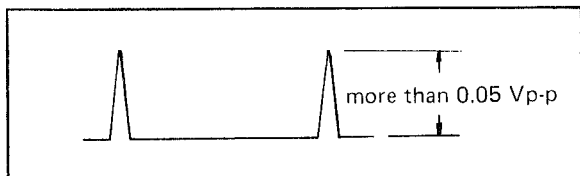

Fig. 6-3 Capstan pick-up pulse
- If no comparison signal (sawtooth waveform) appears at TP-11, connect the oscilloscope to TP-10 and check the waveform as shown in Fig. 6-3.